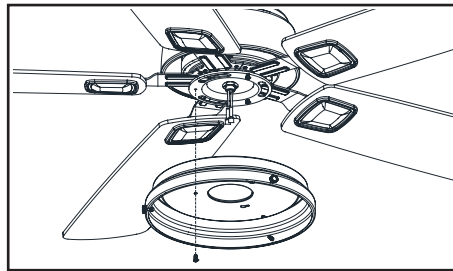

Figure 15
2. Most fan wobble problems are caused when blade levels are unequal. Check this level by selecting a point on the ceiling above the tip of one of the blades. Measure from a point on the center of each blade to the point on the ceiling. Measure this distance as shown in Figure 15. Rotate the fan until the next blade is positioned for measurement. Repeat for each blade. Measurements deviation should be within 1/8". Run the fan for 10 minutes.
1. Loosen but do not remove two of three mounting screws from the fan motor assembly; Remove one mounting screw. (Figure 15)
2. Push the switch cup cover up to the fan motor assembly so that the two loosened screw heads fit into the keyhole slots. Turn the switch cup cover clockwise, tightened the screws. Re-install the screw that was removed in step 1 and tighten firmly. (Figure 15)